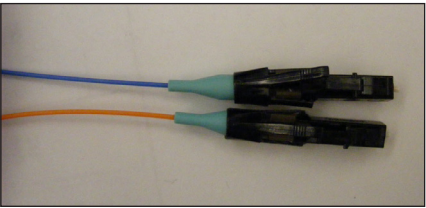
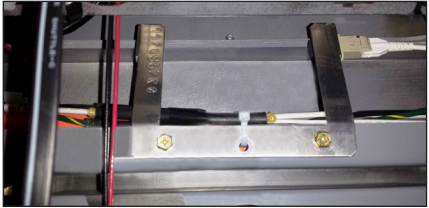

Figure 30: Fiber Cable
Figure 31: Fiber Patch Panel
1. Route the fiber cable through conduit to the fiber patch panel inside the display at the sections specified on the contract-specific Riser Diagram. Refer to **DWG-3177983**, **DWG-3196409**, **Figure 30**, and **Figure 31**.
2. Route the coiled fiber cables to the next section, connecting at the fiber patch panel or PLR. Refer to **DWG-3170241**, **Figure 31**, and **Figure 32**.